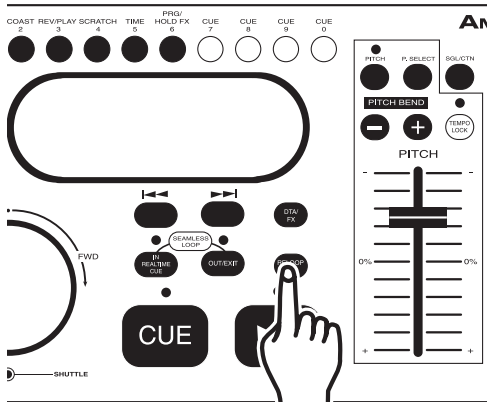

Figure 27
Please note only the ending point of a loop may be edited, a loop may be made shorter or longer. Before you can edit your seamless loop you obviously must first have created a seamless loop to edit. If you haven't created a SEAMLESS LOOP, follow the instructions in step 10. If a SEAMLESS LOOP has already been created, press the RELOOP/BOP BUTTON (30) to activate your SEAMLESS LOOP (Figure 27), if it is not already playing. To edit a loop's ending point: